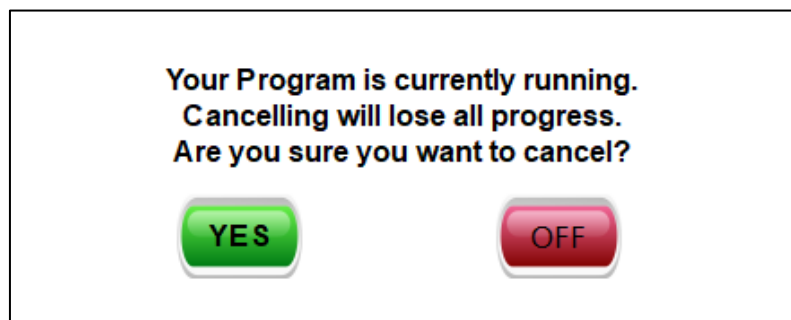

Figure 30
- During a program run, the run can be stopped by tapping “Cancel Run”. A confirmation box will appear to confirm the action (Figure 30).